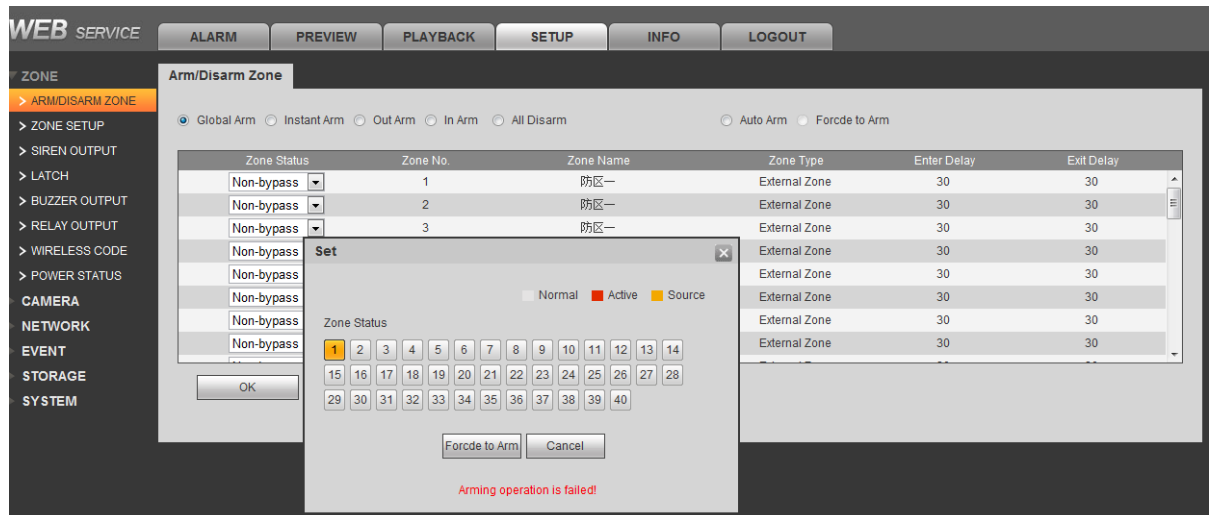

Figure 4- 1
4. Arm all once, check whether zone is abnormal. If there is abnormal, you will see prompt as in Figure 4- 1.